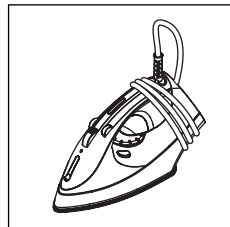

fig. 10
- Wind the power cable around the cable winder (fig. 10).
Self-clean button (fig. 10)